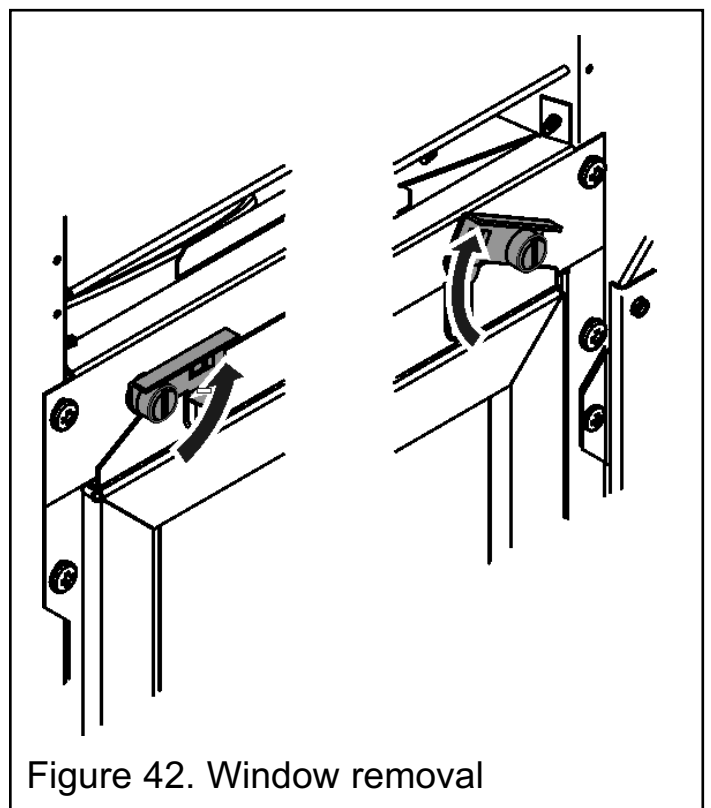
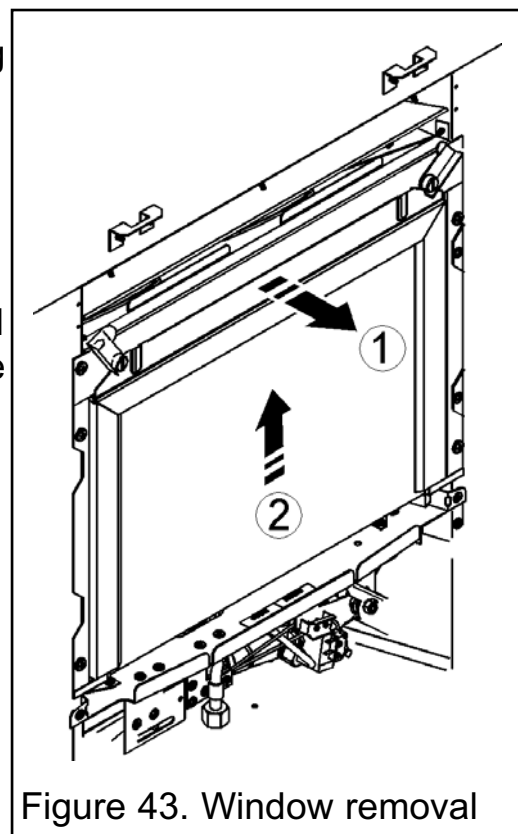

Figure 42. Window removal
Figure 43. Window removal
1. The window assembly is held in place with two brackets that rotate around a central pivot point. Push the brackets up and clear of the window assembly (See figure 42). Gently pull the top of the window forward and lift the window assembly clear of its support channels (See figure 43). Place the window assembly in a safe place away from the work area.